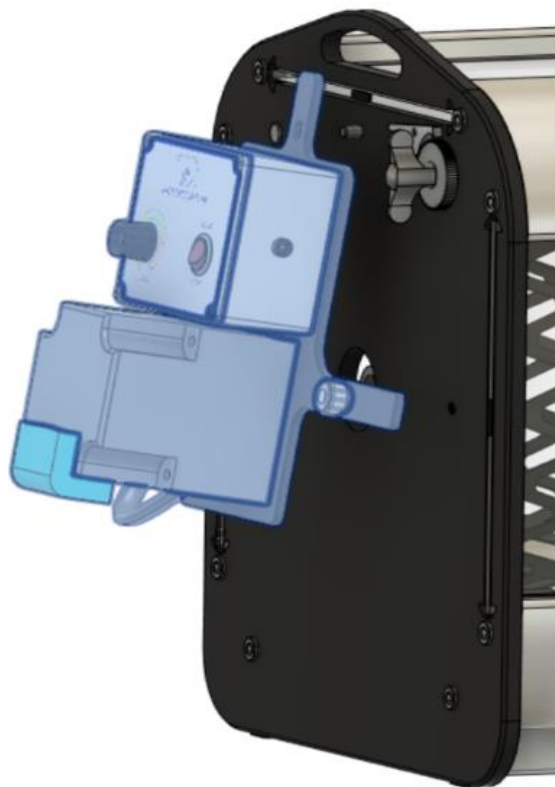

Fig. 22
- a. Remove the screw and disconnect the motor assembly from the rear plate (see Fig.22).